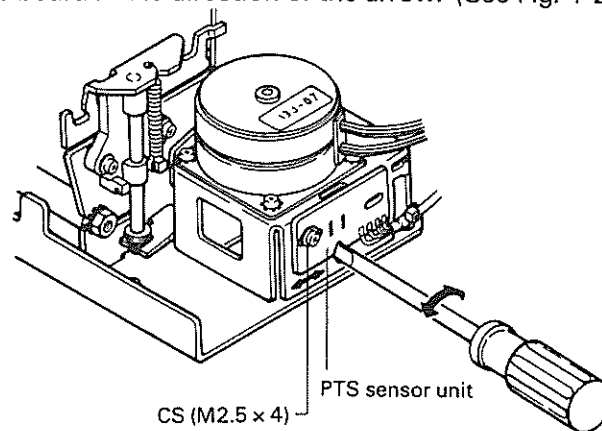

Fig. 4-27. PTS Sensor Board Position Adjustment
- Step 4: Move the PTS sensor board in the direction of the arrow. (See Fig. 4-27)